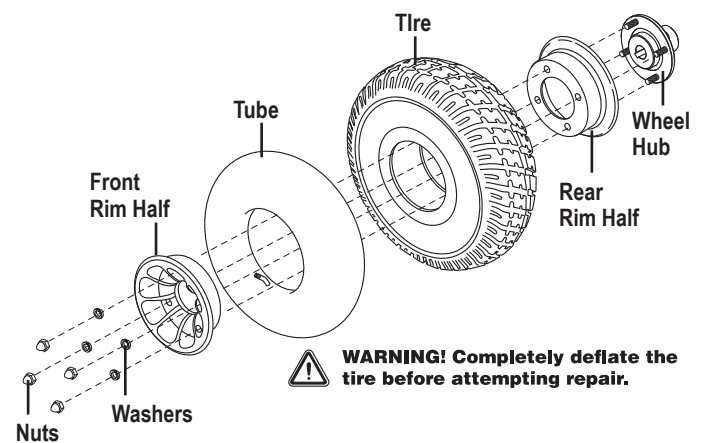

Figure 23. Pneumatic Drive Wheel Disassembled
8. Remove the nuts and washers from the wheel hub and separate the rim halves. See figure 23.